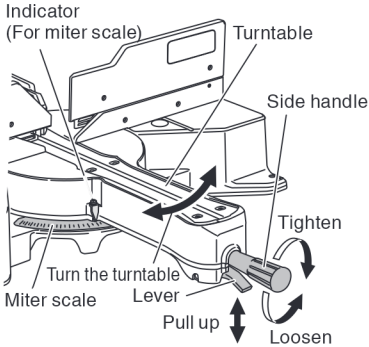
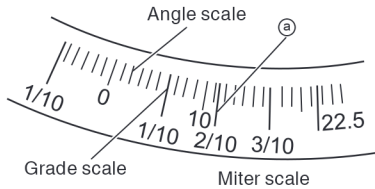

Fig. 31
Fig. 32
- (1) Loosen the side handle and pull up the lever for angle stoppers. Then, adjust the turntable until the indicator aligns with desired setting on the miter scale (Fig. 31).
- (2) Re-tighten the side handle to secure the turntable in the desired position.
- (3) The miter scale (Fig. 32) indicates both the cutting angle on the angle scale and the gradient on the grade scale.
- (4) The gradient, which is the ratio of the height to the base of the triangular section to be removed, may be used for setting the miter scale instead of the cutting angle, if desired (see Fig. 32).
- (5) Therefore, to cut a workpiece at a grade of 2/10, set the indicator to position ② as indicated in Fig. 32.